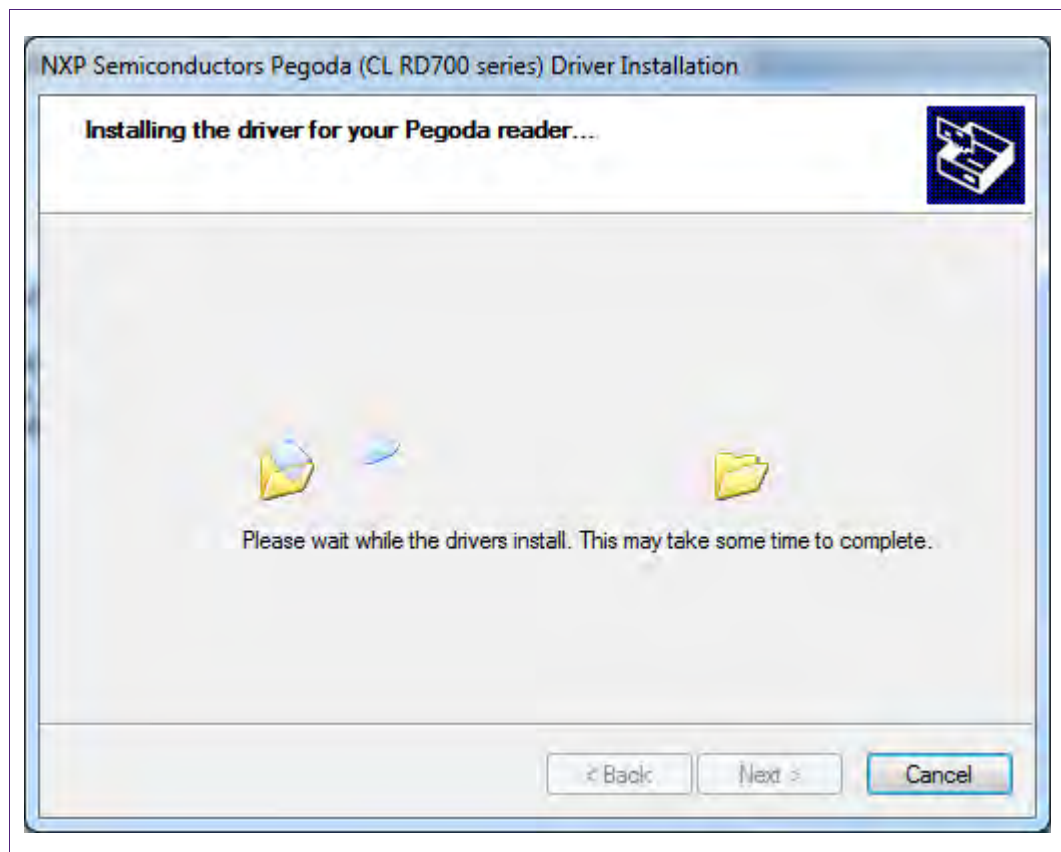

Fig. 3 Wizard Installation
4) The driver for the Pegoda reader will now be installed (see Fig. 3).